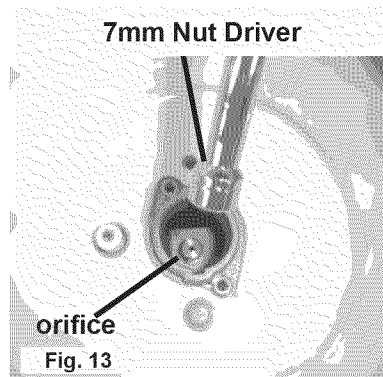

Fig. 13
- Remove the factory installed natural gas orifices from the center of the orifice holders using a 7 mm nutdriver (See Fig. 13). **Save the natural gas orifices removed from the appliance for possible future conversion back to natural gas.**